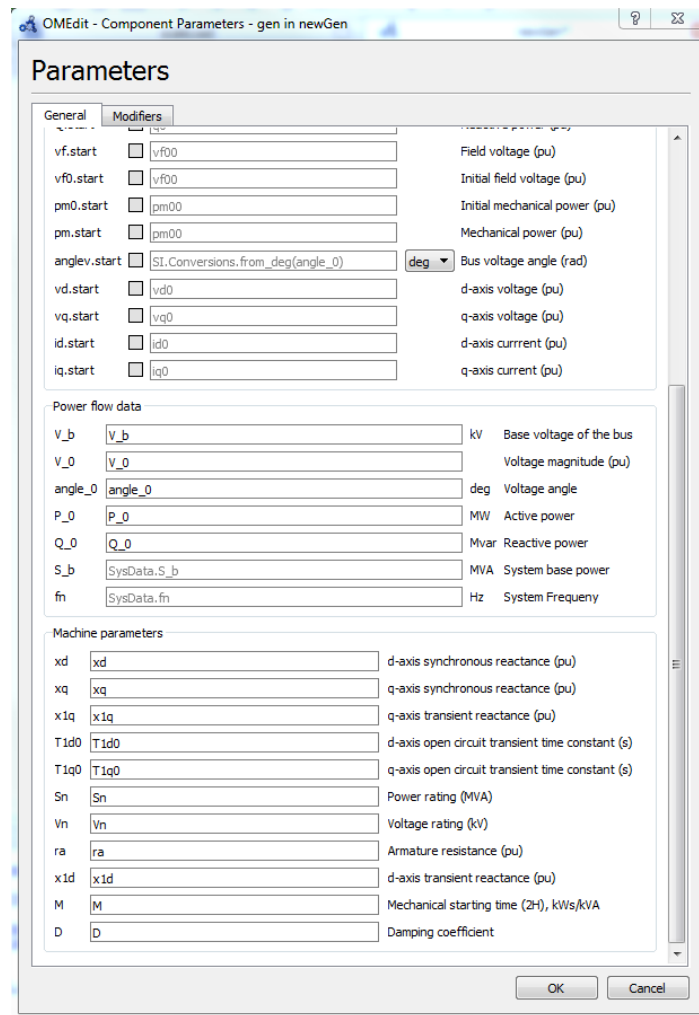

Figure 6: Generator model parameters from Gen model workspace.
2. Now in the diagram mode, open the machine model, and in the text fields for *Machine Parameters*, enter the parameter names. The machine model dialog should look like in Figure 6. Follow the same convention for *Power Flow Data* tab of the machine. Press OK and save the model.